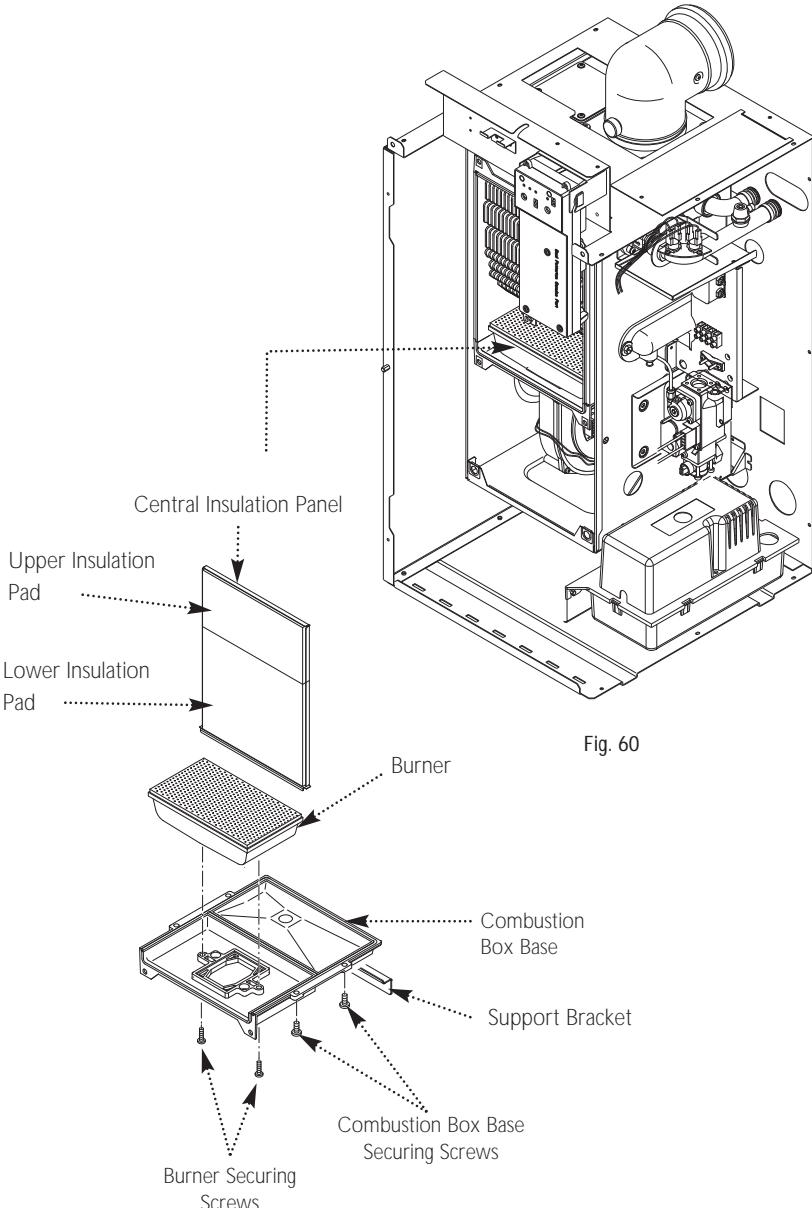

Fig. 60
15.14 Heat Exchanger Lower Insulation Pad (Fig. 60)
15.15 Heat Exchanger Upper Insulation Pad (Fig. 60)